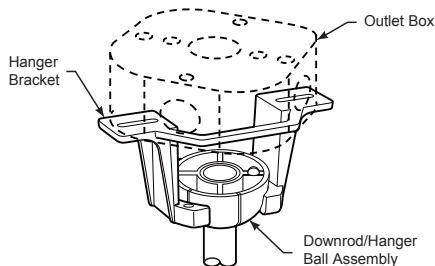

Figure 4
4. Thread downrod into the downrod support on top of the motor. Install the clevis pin by aligning the holes in the downrod support with holes in the downrod. Secure clevis pin with hairpin clip. Tighten the two set screws with locking nuts in the downrod support. (Figure 4)
2. Carefully lift the fan and seat the downrod/hanger ball assembly onto the hanger bracket that was just attached to the outlet box. Be sure the groove in the ball is lined up with tab on the hanger bracket. (Figure 4) This fan is intended for standard and angled mounting options only. Closemount and flushmount options are not available. For angled ceilings, note the angle can be no more than 19°.